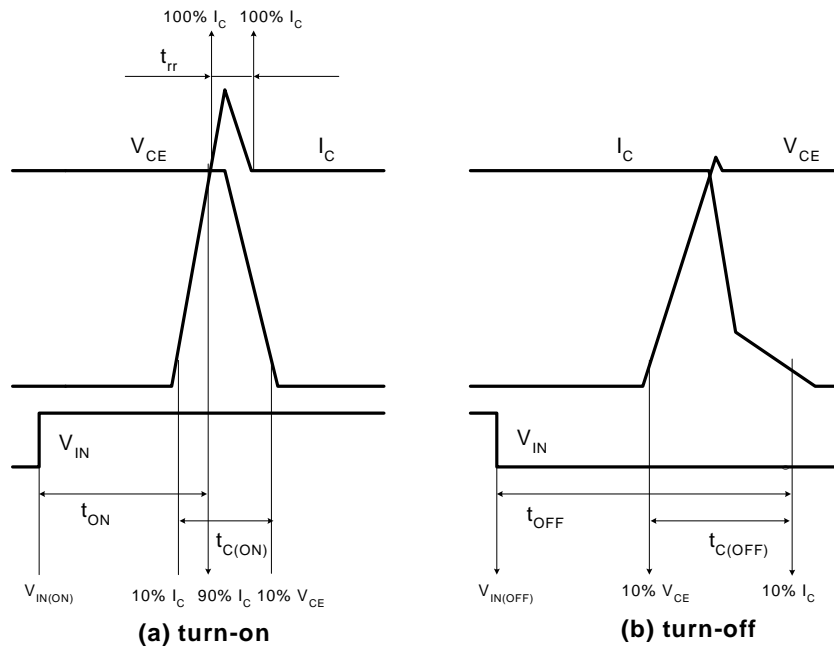

Figure 4. Switching Time Definition
3. tON and tOFF include the propagation delay of the internal drive IC. tC(ON) and tC(OFF) are the switching time of IGBT itself under the given gate driving condition internally. For the detailed information, please see Figure 4.